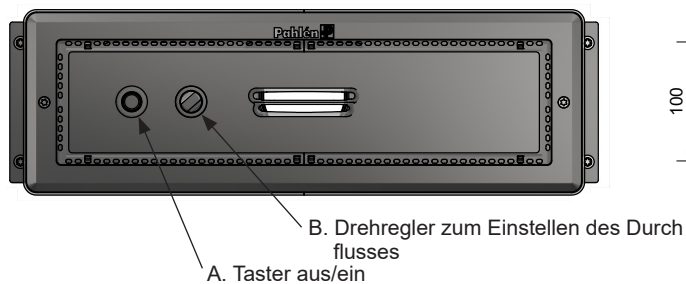

Bild 3: Jet Swim Athlete, Ansicht von vorne.
1. Start by pressing the start button (A) in the front, see Figure 3.
2. The jet can be adjusted by turning knob (B), see Figure 3. The range between max and min is about 2½ turns. We recommend turning off the jet before turning the knob.